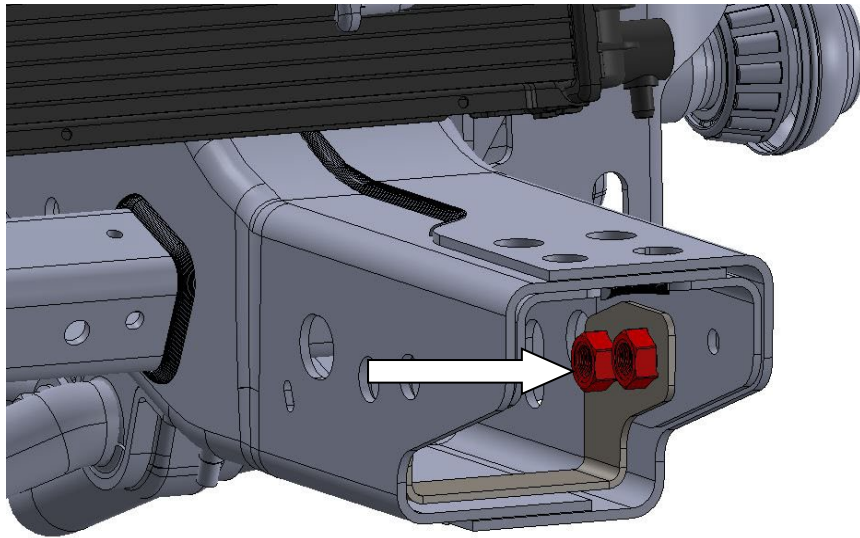

Figure 5
6. Place the provided nut plate (22357) into the frame for later install. (Fig 5.)